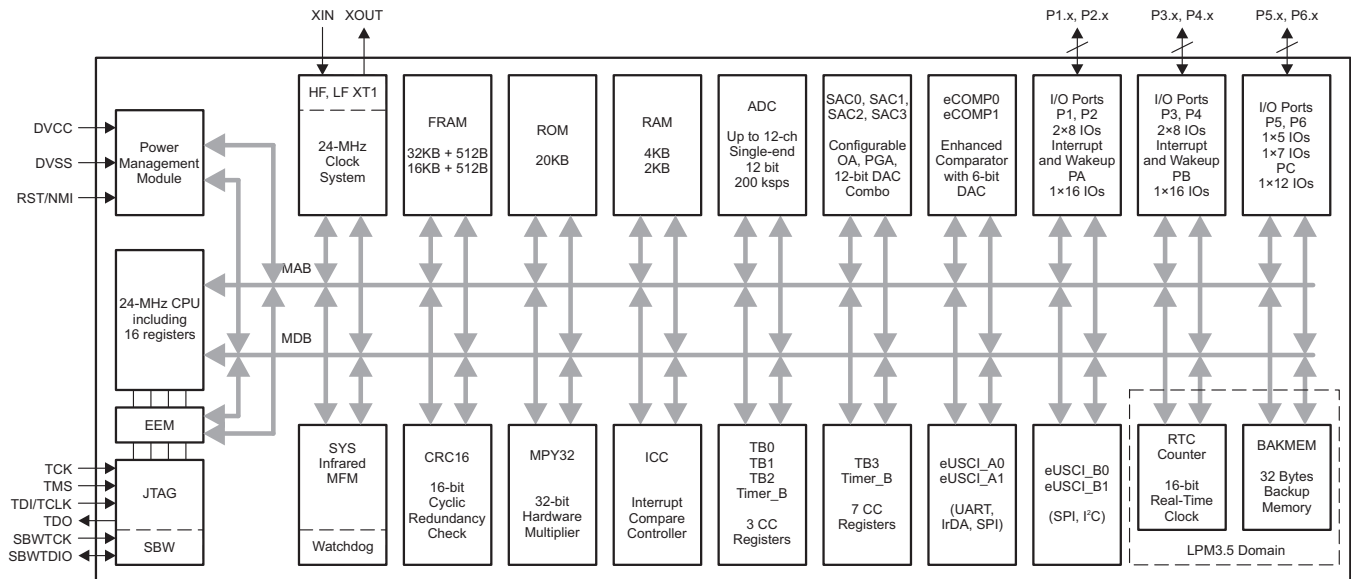
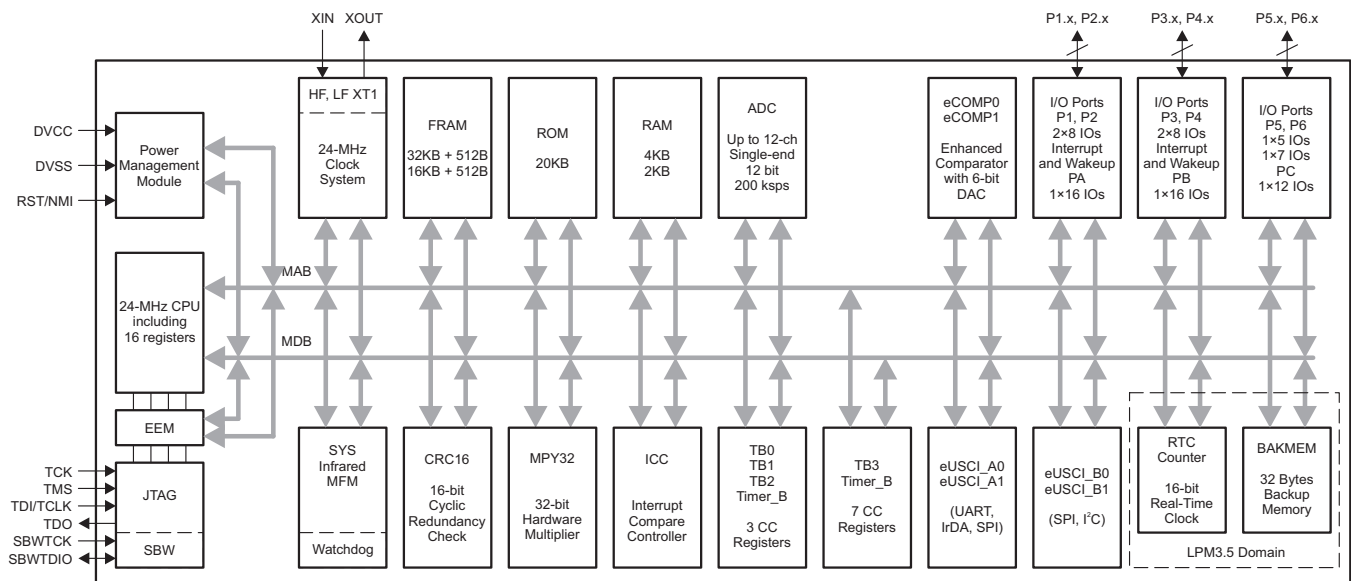

Figure 1-1. MSP430FR235x Functional Block Diagram
Figure 1-2. MSP430FR215x Functional Block Diagram
Figure 1-1 shows the MSP430FR235x functional block diagram.
Figure 1-2 shows the MSP430FR215x functional block diagram.
- Corrected the ROM size in Figure 1-1 MSP430FR235x Functional Block Diagram and Figure 1-2 MSP430FR215x Functional Block Diagram 4 - Added a note on all VQFN pinouts to indicate that the thermal pad should be connected to VSS 11 - Corrected Figure 4-4, 32-Pin RSM (VQFN) (Top View) – MSP430FR235x 13 - Changed the note that begins "Supply voltage changes faster than 0.2 V/μs can trigger a BOR reset..." in Section 5.3, Recommended Operating Conditions 27 - Added the note that begins "TI recommends that power to the DVCC pin must not exceed the limits..." in Section 5.3, Recommended Operating Conditions 27 - Changed the note that begins "A capacitor tolerance of ±20% or better is required..." in Section 5.3, Recommended Operating Conditions 27 - Combined former sections 5.8 and 5.10 into Section 5.9, Production Distribution of LPM Supply Currents 31 - Corrected the "SVS disabled" condition for Figure 5-1 31 - Added the note "See MSP430 32-kHz Crystal Oscillators for details on crystal section, layout, and testing" to Table 5-3, XT1 Crystal Oscillator (Low Frequency) 35 - Changed the note that begins "Requires external capacitors at both terminals..." in Table 5-3, XT1 Crystal Oscillator (Low Frequency) 35 - Added the $t_{TB, cap}$ parameter in Table 5-13, Timer_B 45 - Corrected the test conditions for the R_I parameter in Table 5-20, ADC, Power Supply and Input Range Conditions 51 - Removed ADCDIV from the equation for the ADC conversion time because ADCCLK is after division in Table 5-21, ADC, Timing Parameters 51 - Added the note that begins "$t_{Sample} = \ln(2^{n+1}) \times \tau$..." in Table 5-21, ADC, Timing Parameters 51 - Changed the unit from "nV" to "μV" for the "Input noise voltage" in the Table 5-25, SAC, OA 55 - Changed the unit from "nV/√Hz" to "nV/√Hz" for the "Input noise voltage density" in the Table 5-25, SAC, OA 55 - Removed the I_{ref} trim parameter from Table 5-27, FRAM 57 - Changed the bitfield name from RTCCLK to RTCCSEL in the table note on Table 6-9, Clock Distribution 68 - Added Section 6.10.17, Cross-Chip Interconnection (SACx are MSP430FR235x Devices Only) 83 - Added P1SELC information in Table 6-41, Port P1, P2 Registers (Base Address: 0200h) 86 - Added P2SELC information in Table 6-41, Port P1, P2 Registers (Base Address: 0200h) 86 - Added P3SELC information in Table 6-42, Port P3, P4 Registers (Base Address: 0220h) 87 - Added P4SELC information in Table 6-42, Port P3, P4 Registers (Base Address: 0220h) 87 - Added P5SELC information in Table 6-43, Port P5, P6 Registers (Base Address: 0240h) 87 - Added P6SELC information in Table 6-43, Port P5, P6 Registers (Base Address: 0240h) 87 - Changed CRC covered end address to 0x1AF7 in table note (1) in Table 6-70, Device Descriptors 107